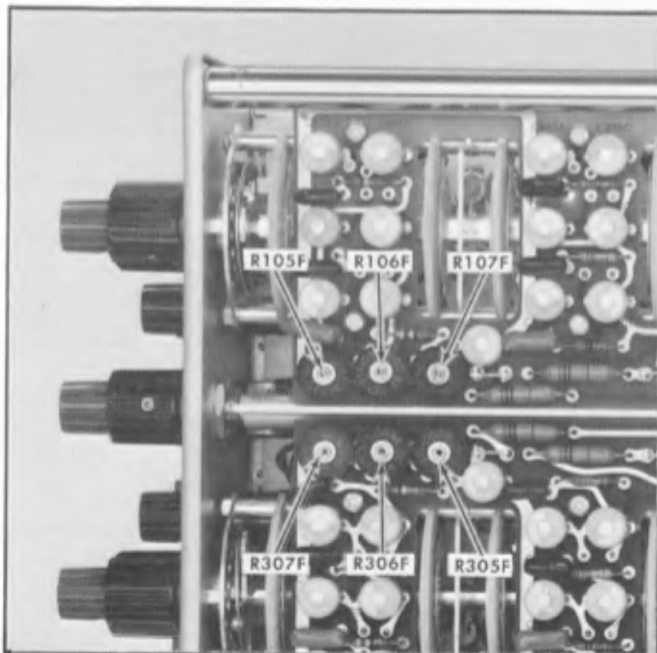

Fig. 6-9. Location of Attenuator Differential Balance adjustments for channels 1 and 2.
- e. ADJUST—See table 6-2 and Fig 6-9 for appropriate component number and location to be adjusted for minimum display amplitude.